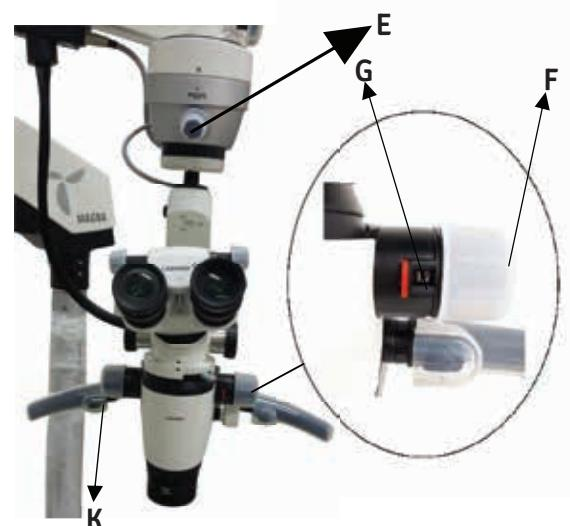

Fig. 20
- a. Use the knobs (F) Fig 20 provided on the Magnichanger to select the desired magnification level.
- a. Refer Fig. 20 Pressing the Red click button (G) located besides the Magnification indicator will select the 8 step magnification. Pressing the same Red click button from reverse side to select the magnification in continuous zoom.